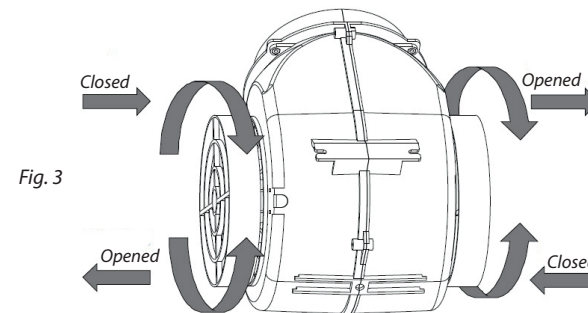

Fig. 3
2. The carbon filters are situated on both sides of the motor. Turn the filters, until they are secured (see Fig. 3).